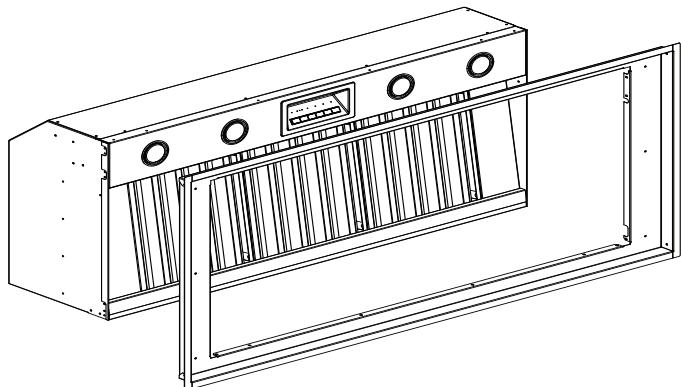

Figure 2: VCIN Liner Installation
1. Slide the liner onto the hood (*Figure 2*).